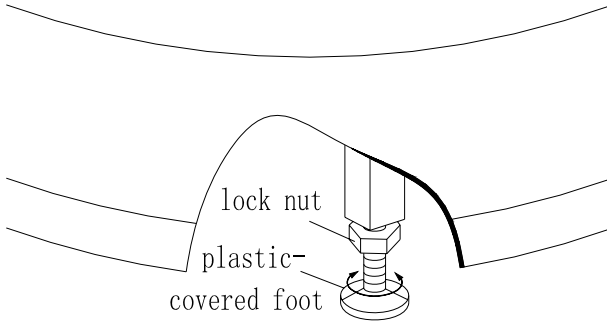

Fig. 1
1. Adjust plastic-covered feet -----move the basin to a suitable position, adjust the plastic-covered foot at the bottom, to make it contact the ground. As fig.1.